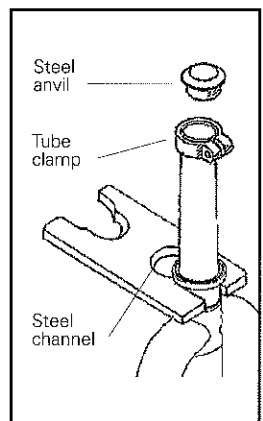

Fig. 35
1. Clamp or bolt the **steel channel** to a bench with the flanges facing up and the large opening overhanging the edge of the table (Fig. 35).